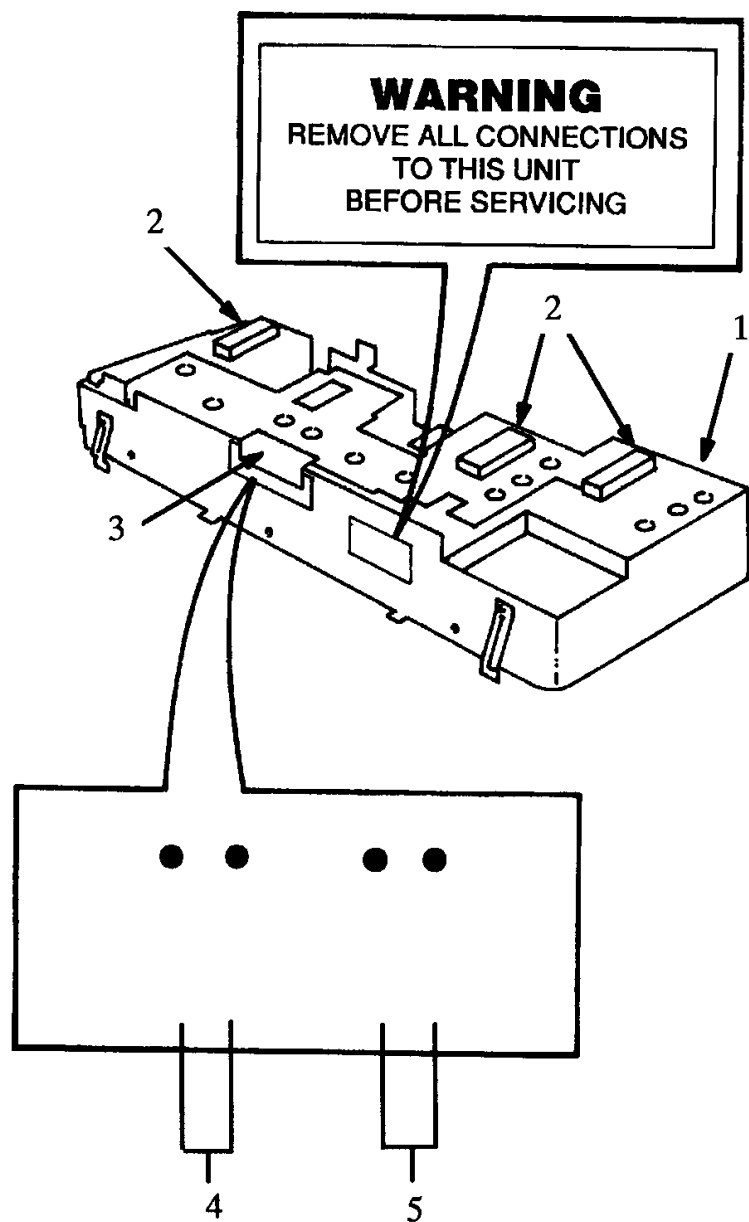
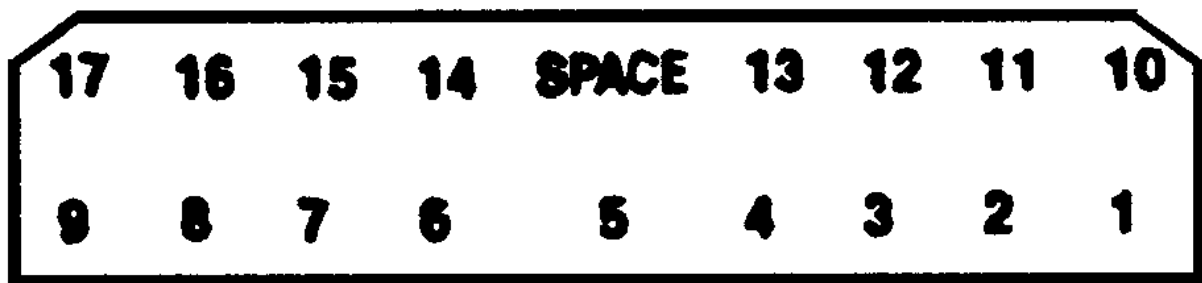
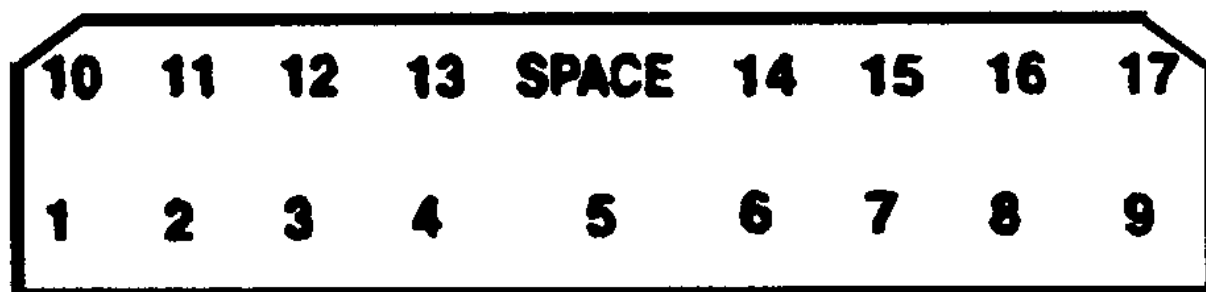

Figure 20 Jumper Pin Location
Figure 21 Harness Connector Pins
Figure 22 Cluster Connectors
The speedometer jumper pins are used to set up the cluster for MPH or KPH as the primary speedometer readout, and to select axle ratios. They are located at the top edge of the cluster and can be accessed by pulling the cluster out of the instrument panel (Item 3, Figure 20). All other speedometer and tachometer parameters are programmed electronically through the data link into the engine ECM2.
There may be two jumpers visible. The left jumper is for setting the odometer from English to metric readings (Item 4, Figure 20). For miles per hour (MPH), the jumper is not installed. For a kilometers per hour (KPH) speedometer, the jumper is installed.
The right jumper (Item 5, Figure 20) is for calibration of the two available two-speed axle ratios. These are 1.36:1 (jumper not installed) and 1.39:1 (jumper installed). If the vehicle does not have a two-speed axle, the jumper setting is inactive and a jumper is not needed.
Each harness connector has seventeen (17) pins numbered right to left. The bottom row contains pins 1 through 9 and the top row, pins 10 through 17. There is a space between pins 13 and 14 (Figure 21).
Looking at the rear of the cluster (Figure 20), the three connectors (Figure 22) will be the reverse of the plug-in harness connectors (Figure 21). The right connector is yellow, the center is green and the left is natural.